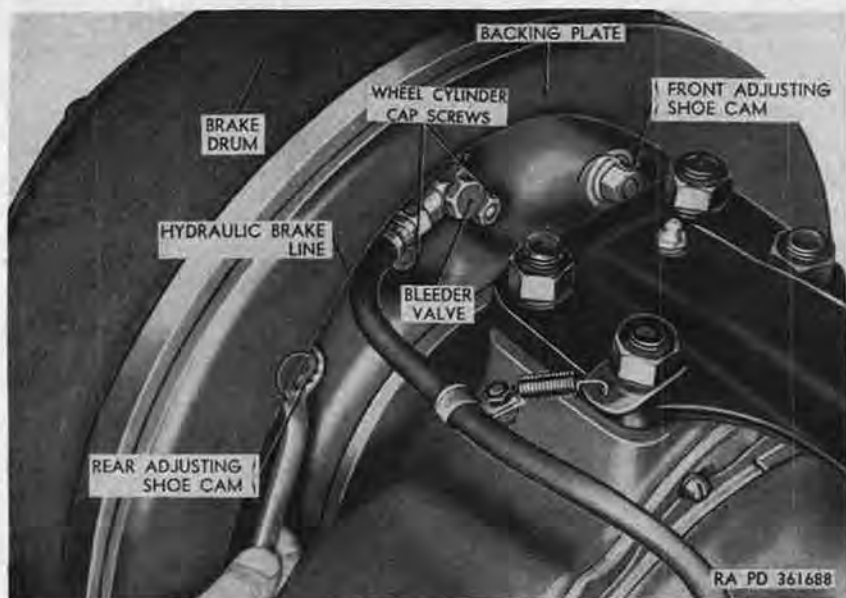

Figure 240. Turning adjusting shoe cam.
- (1) Adjust wheel bearings (par. 242) at one wheel.
- (2) Turn rear adjusting shoe cam (fig. 240) on back side of backing plate counterclockwise until brake drags slightly when wheel is turned by hand. Then turn adjusting cam clockwise just enough to allow wheel to rotate freely.
- (3) Turn forward adjusting shoe cam (fig. 240) clockwise until brake drags slightly when wheel is turned by hand. Then turn adjusting cam counterclockwise just enough to allow
- (5) If clearance between shoe and drum is incorrect, adjust clearance ((a) and (b) below).
- (a) Turn rear adjusting shoe cam (fig. 240) until clearance between shoe and drum, measured by feeler gage, is 0.020 inch. To reduce clearance, turn cam counterclockwise. To increase clearance, turn cam clockwise.
- (6) Adjust clearance between lower and upper ends of front brake shoe and drum ((2), (3), (4), and (5) above).
d. Bleeding Wheel Cylinders (fig. 240). Perform bleeding operations at each wheel cylinder (*b* above).
- (1) Remove wheel and tire assembly (par. 241).
- (2) Remove hub and drum assembly (par. 242).
- (3) Unscrew connector securing hydraulic brake line (fig. 240) to wheel cylinder at back side of backing plate assembly, and remove line from cylinder.